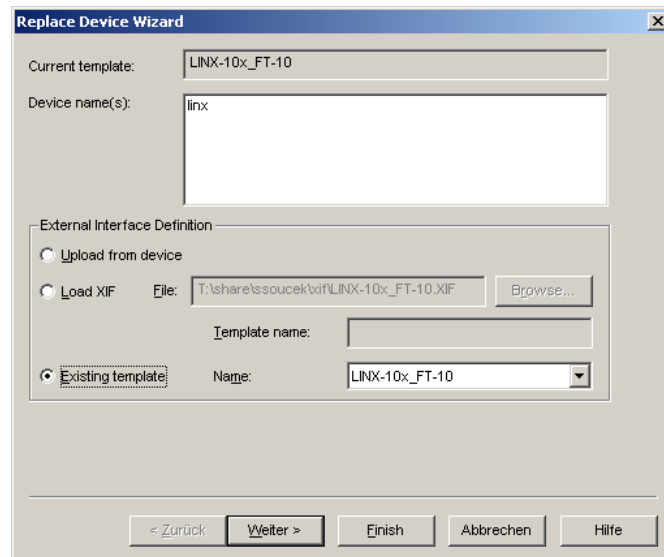

Figure 79: LonMaker replace device wizard.
2. Select **Commissioning** → **Replace....** This opens the LonMaker Replace Device Wizard as shown in Figure 79.